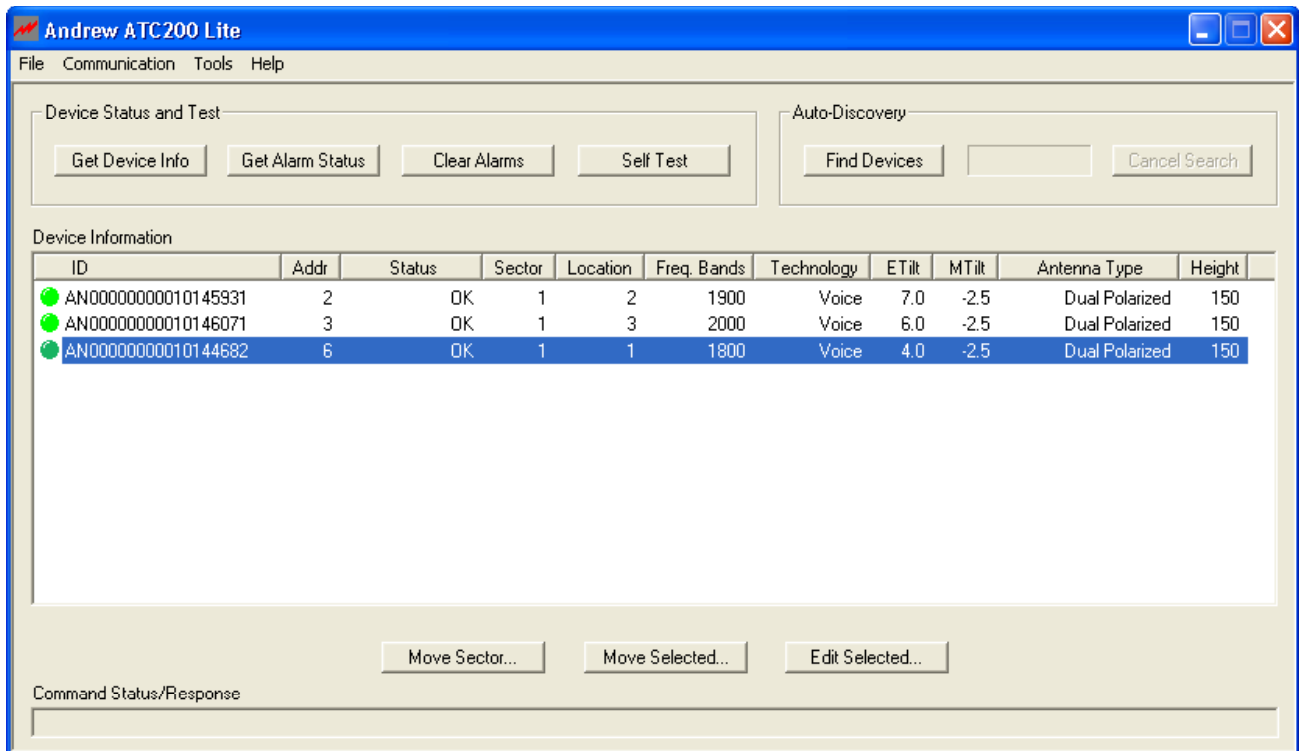

Figure 4-14. Device Shows New Address.
10. The device will display its new address in the 'Device Information' list on the main screen (Figure 4-14).